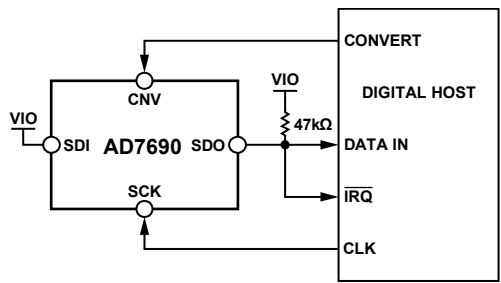
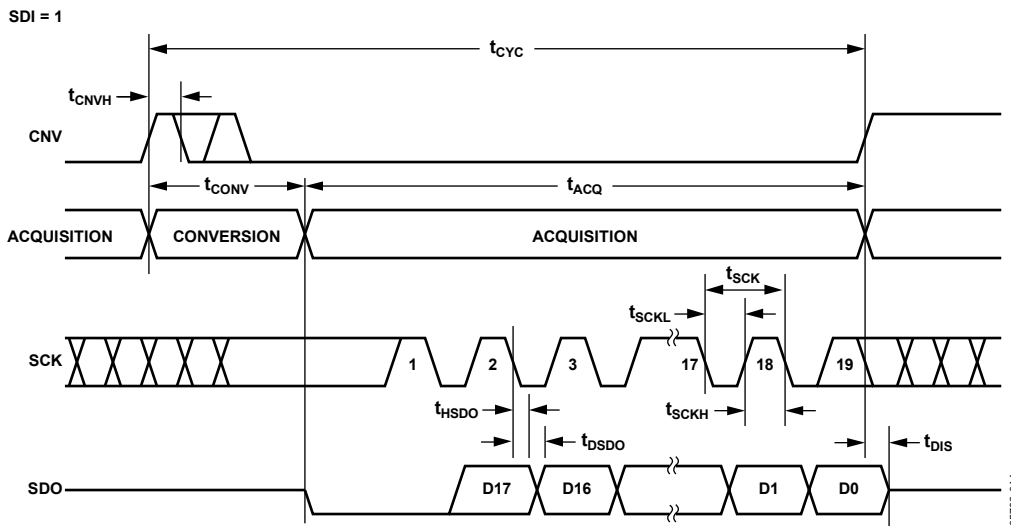
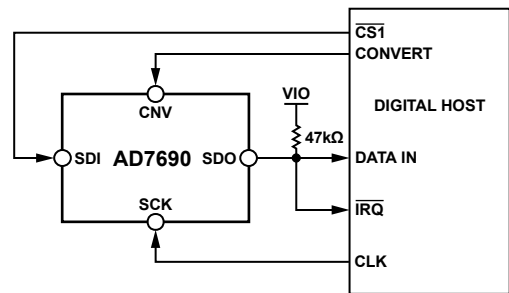
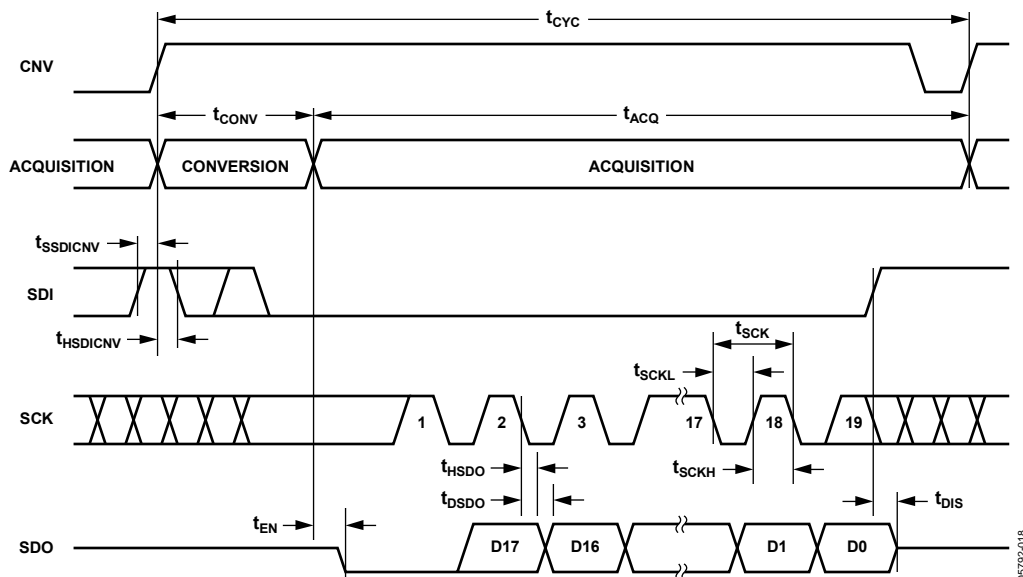

Figure 36. 3-Wire $\overline{\text{CS}}$ Mode with Busy Indicator Connection Diagram (SDI High)
Figure 37. 3-Wire $\overline{\text{CS}}$ Mode with Busy Indicator Serial Interface Timing (SDI High)
Figure 40. 4-Wire $\overline{\text{CS}}$ Mode with Busy Indicator Connection Diagram
Figure 41. 4-Wire $\overline{\text{CS}}$ Mode with Busy Indicator Serial Interface Timing
- In \overline{CS} mode if CNV or SDI is low when the ADC conversion ends (see Figure 37 and Figure 41).
The connection diagram is shown in Figure 36, and the corresponding timing is given in Figure 37.
The connection diagram is shown in Figure 40, and the corresponding timing is given in Figure 41.